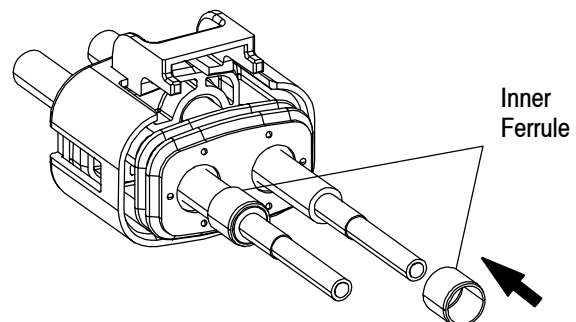

Figure 5
4. Insert the inner ferrules 1587828-[] onto both wires and over the outer jacket as shown in Figure 5. Wire size 2.0–2.5 mm² accepts Size A inner ferrule; and wire size 3.0 accepts Size B inner ferrule, and wire size 4.0 mm² accepts Size C inner ferrule. Refer to the Customer Drawing for specific part numbers.